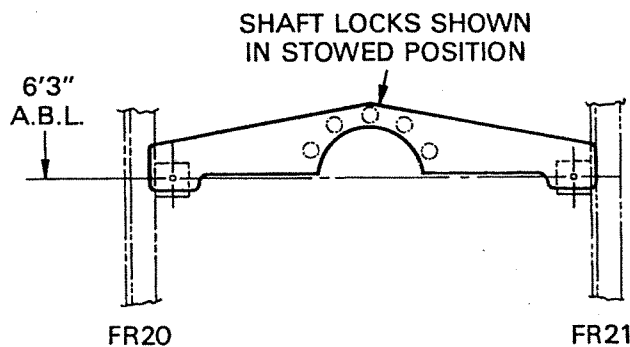

Figure 4-21. Propeller Shaft Locks — Stowed Position
3. Lock the propeller shaft of the down engine (Figure 4-21).